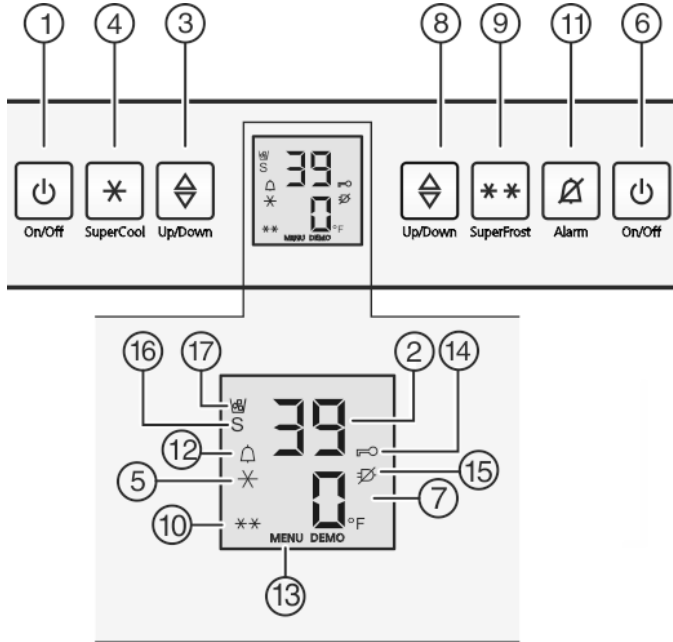

Fig. 3
- ▶ Press the freezer compartment On/Off button Fig. 3 (6).
- ▶ Press the refrigerator compartment On/Off button Fig. 3 (1).
- ▶ Activate setting mode: Press SuperFrost button Fig. 3 (9) for about 5 seconds.
- ▷ The Menu symbol Fig. 3 (13) lights up.
- ▶ Use the Set freezer compartment button *Fig. 3 (8)* to select °.
- ▶ To confirm: Briefly press SuperFrost button *Fig. 3 (9)*.
- ▶ Select °F oder °C with the Freezer compartment set button *Fig. 3 (8)*.
- ▶ To exit setting mode: Press Freezer compartment On/Off button *Fig. 3 (6)*.
- ▶ To activate setting mode: Press and hold the SuperFrost button *Fig. 3 (9)* for approx. 5 seconds.
- ▷ In the display, the Menu Symbol *Fig. 3 (13)* is displayed.
- ▶ Use the Set freezer compartment button *Fig. 3 (8)* to select **c**.
- ▶ Confirm briefly by pressing the SuperFrost button *Fig. 3 (9)*.
- ▷ The Child Safety symbol *Fig. 3 (14)* lights up on the display.
- ▶ Press the freezer compartment On/Off button *Fig. 3 (6)* briefly.